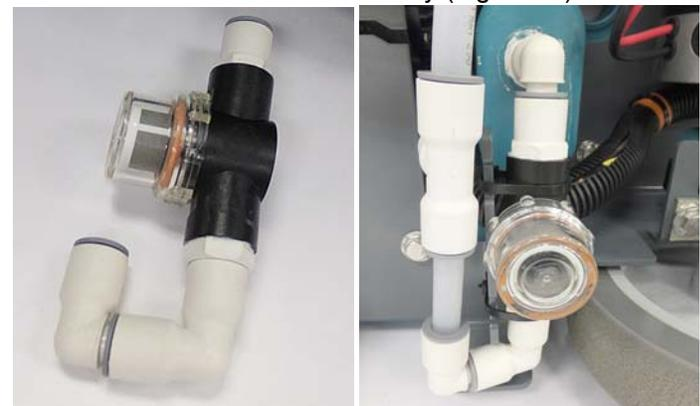

Fig. 12
10. Reinstall solution filter assembly (Figure 12).